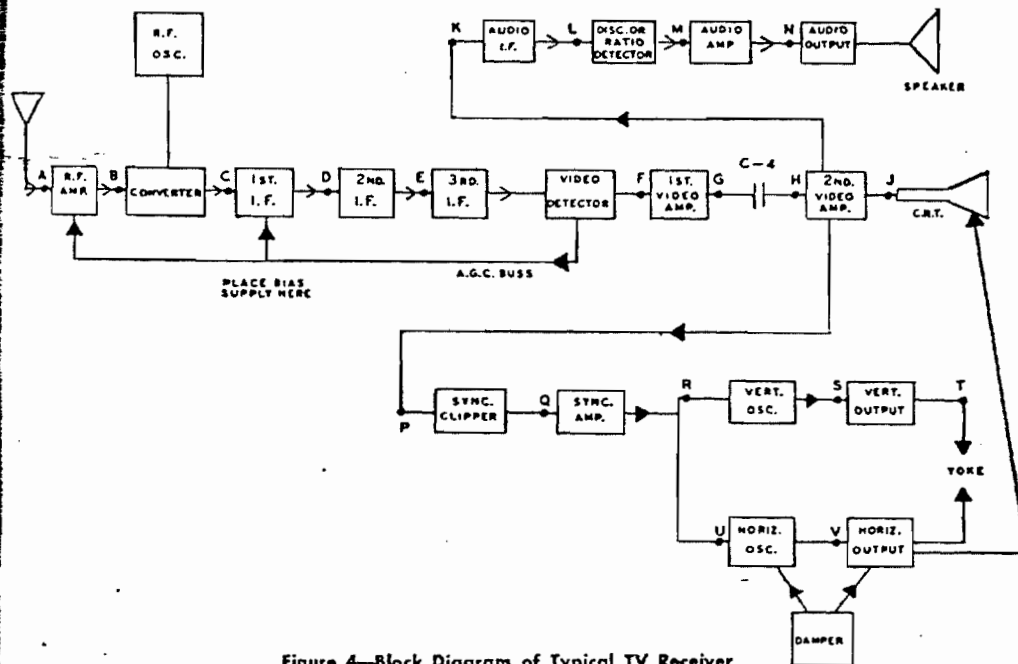

Figure 4—Block Diagram of Typical TV Receiver
The Television Analyst provides the service technician with a powerful tool to quickly and accurately trouble shoot television receivers. Outputs are provided to enable the service technician to inject signals into any section of a TV receiver to isolate trouble to (1), a section of a receiver, and (2), to the specific stage. In many cases it is also possible to locate the exact defective component. This method of trouble shooting is called signal injection. The Television Analyst provides output signals which can be injected into any of the stages shown in Fig. 4. The indication as to whether or not that portion of the receiver is capable of processing the television signal properly is seen directly on the screen of the television receiver being serviced. Signal injection is best accomplished by starting at that portion of the receiver that is farthest from the antenna.
For example:—a defective receiver is to be serviced where the complaint is "no video". Refer to Fig. 4. The farthest point from the antenna in this case would be point J, the grid of the picture tube. The high level signal from the Sync output jack would be injected at this point. If the picture tube is capable of showing video, black and white blanking bars running out of sync will be seen. If the Phase of the sync signal is reversed with the Sync Amplitude control the phase of the Black and White bars will be reversed. The signal must of necessity be out of sync since the sync take off point in most receivers occurs in the video amplifier section of the receiver.
Since the picture tube circuits checked out we must now inject a video signal at point H, the grid of the 2nd video amplifier. This video signal is obtained at the Video Output jack on the Television Analyst. If the 2nd video amplifier is working properly the test signal will be displayed on the picture tube. The signal should also be in sync since the sync take off point occurs in the second video amplifier. The proper phase of video must be obtained with the video level control. To the right of center the phase is positive and to the left of center the phase is negative. We now move our video test signal to point F, the grid of the first video amplifier, as shown in Fig. 4. Remember to reverse the phase of the video signal to account for the 180 degree phase reversal that occurs in the first video amplifier. If the test pattern failed to appear on the picture tube with the signal injected at point F we would know that our trouble must lie between point H and F. Obviously the first video amplifier is defective. A few voltage and resistance readings will quickly locate the defective component.
The block diagram Figure 4 shows all the sections of the receiver. By using the Television Analyst we can inject signals at various points in the receiver